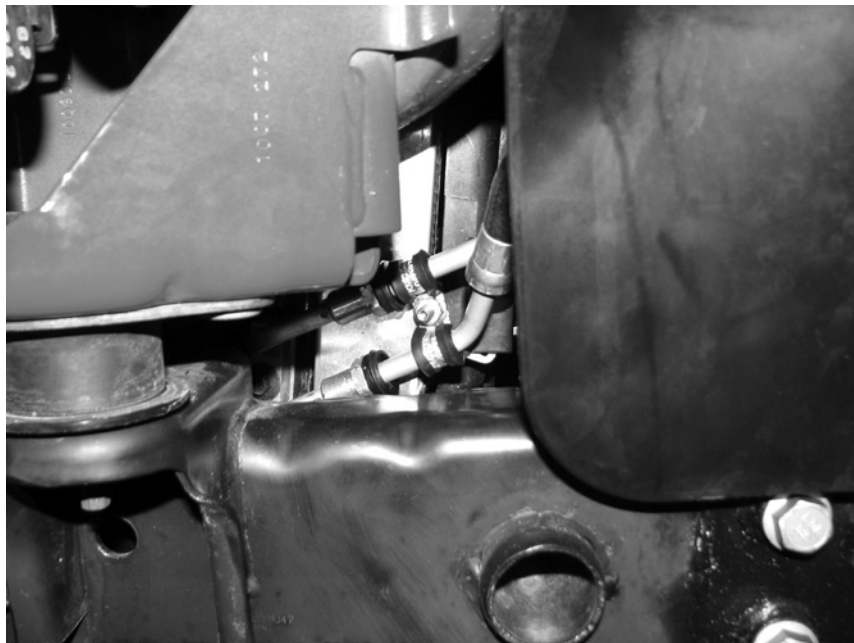

fig. 5
2. The two lines with push connect fittings attach to the stock trans cooler (fig. 5.)